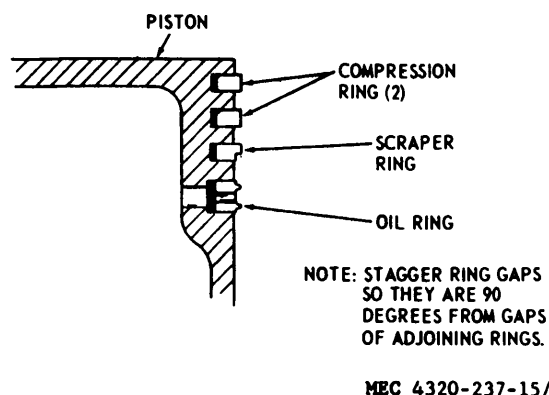

Figure 44. Piston ring location
- (5) Check the fit of the wrist pin in the piston and connecting rod. Refer to table 1 for tolerances.
- (6) Inspect all other parts for cracks, distortion, and other damage; replace damaged parts.
d. *Reassembly.* Reassemble the piston and connecting rod in the reverse of the numerical sequence as illustrated in figure 43. Refer to figure 44 for location of various piston rings.